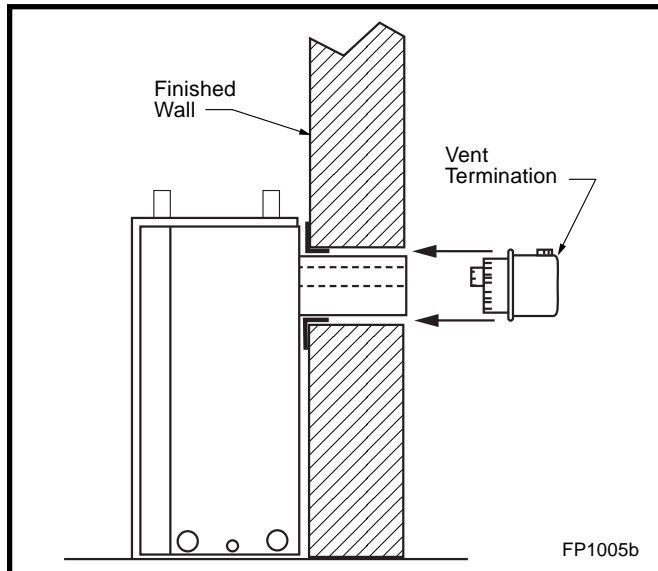

Fig. 16 Side view of final unit location.
Slip 4" and 7" pipes onto respective flue collars. Make sure to fix to the fireplace collar the 4" pipe with three (3) screws before fixing the 7" pipe on the 7" collar. Both pipes must be on a level plane. (Fig 16)
Guide the vent termination 4" collar into the 4" pipe then the 7" collar into the 7" pipe. Do not force the venting into position. If the pipes do not line up with the termination collars, disassemble pipes and reattach to the fireplace collar. (Fig. 16)